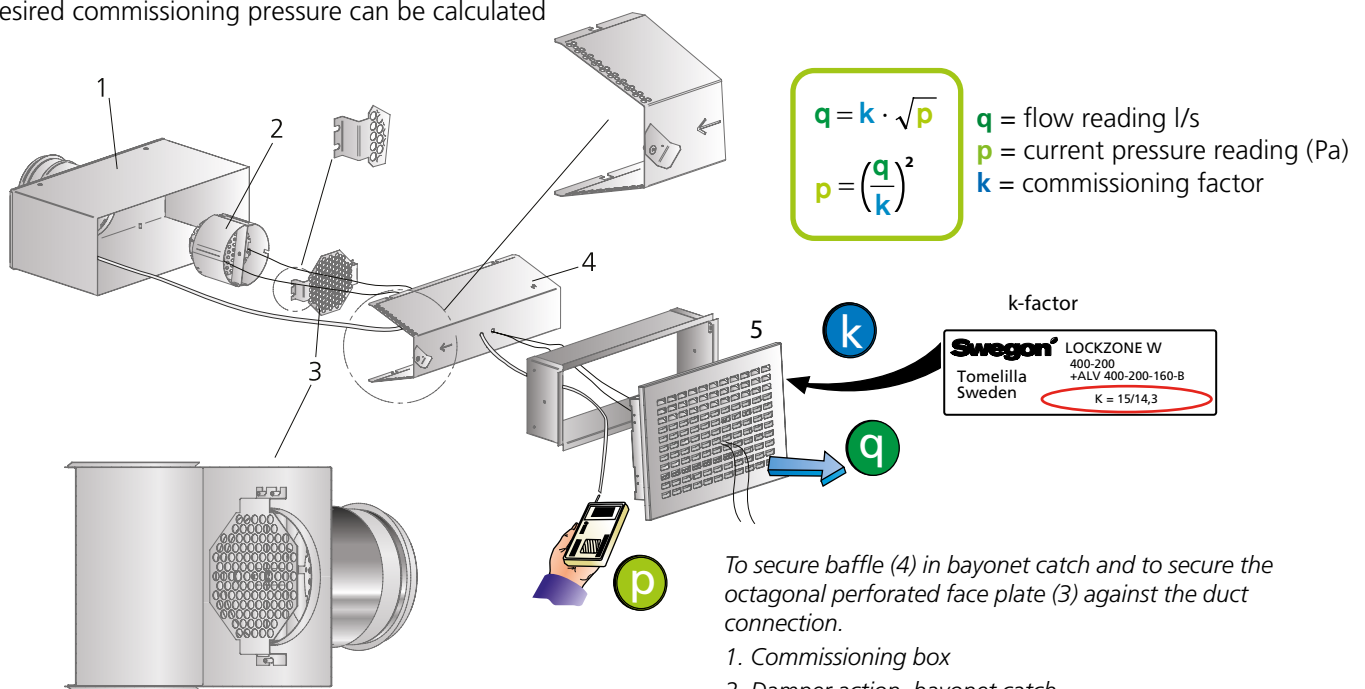

Figure 1. Installation. Commissioning.
See Figure 1.
4. The assembly and dismantling of the component parts are shown in Figure 1.
The rated coefficient of performance (K-factor) is specified on the identification label of the product and in the relevant commissioning instructions at www.swegon.com. See Figure 1.
The air diffuser can be cleaned, if necessary, using lukewarm water with dishwashing detergent added or by vacuum cleaning using a brush nozzle. The duct system can be accessed after the air diffuser section has been removed, the acoustic baffle has been withdrawn, the air distribution discs have been moved to the side and the damper has been turned and withdrawn from its holder from the inlet. See Figure 1.